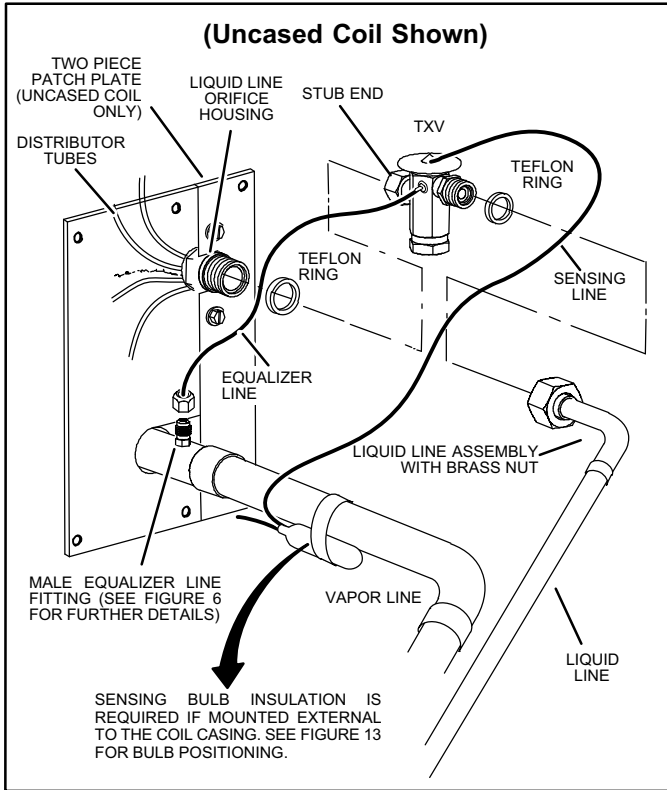

Figure 11. Patch Plate (Configuration A)
NOTE - Either models (C33 or CX34) could be configured as illustrated in either figure 11 or 12.
2. Position the orifice housing with the patch plate as illustrated in either figure 11 or 12. Carefully install two #8 X 1/2" sheet metal screws through the patch plate into the orifice housing mounting base. The distributor lines must not be twisted or kinked.
The TXV unit can be installed internal or external to the indoor coil. In applications where an uncased coil is being installed in a field-provided plenum, install the TXV in a manner that will provide access for field servicing of the TXV. Refer to figures 11 or 12 for reference during installation of TXV unit.